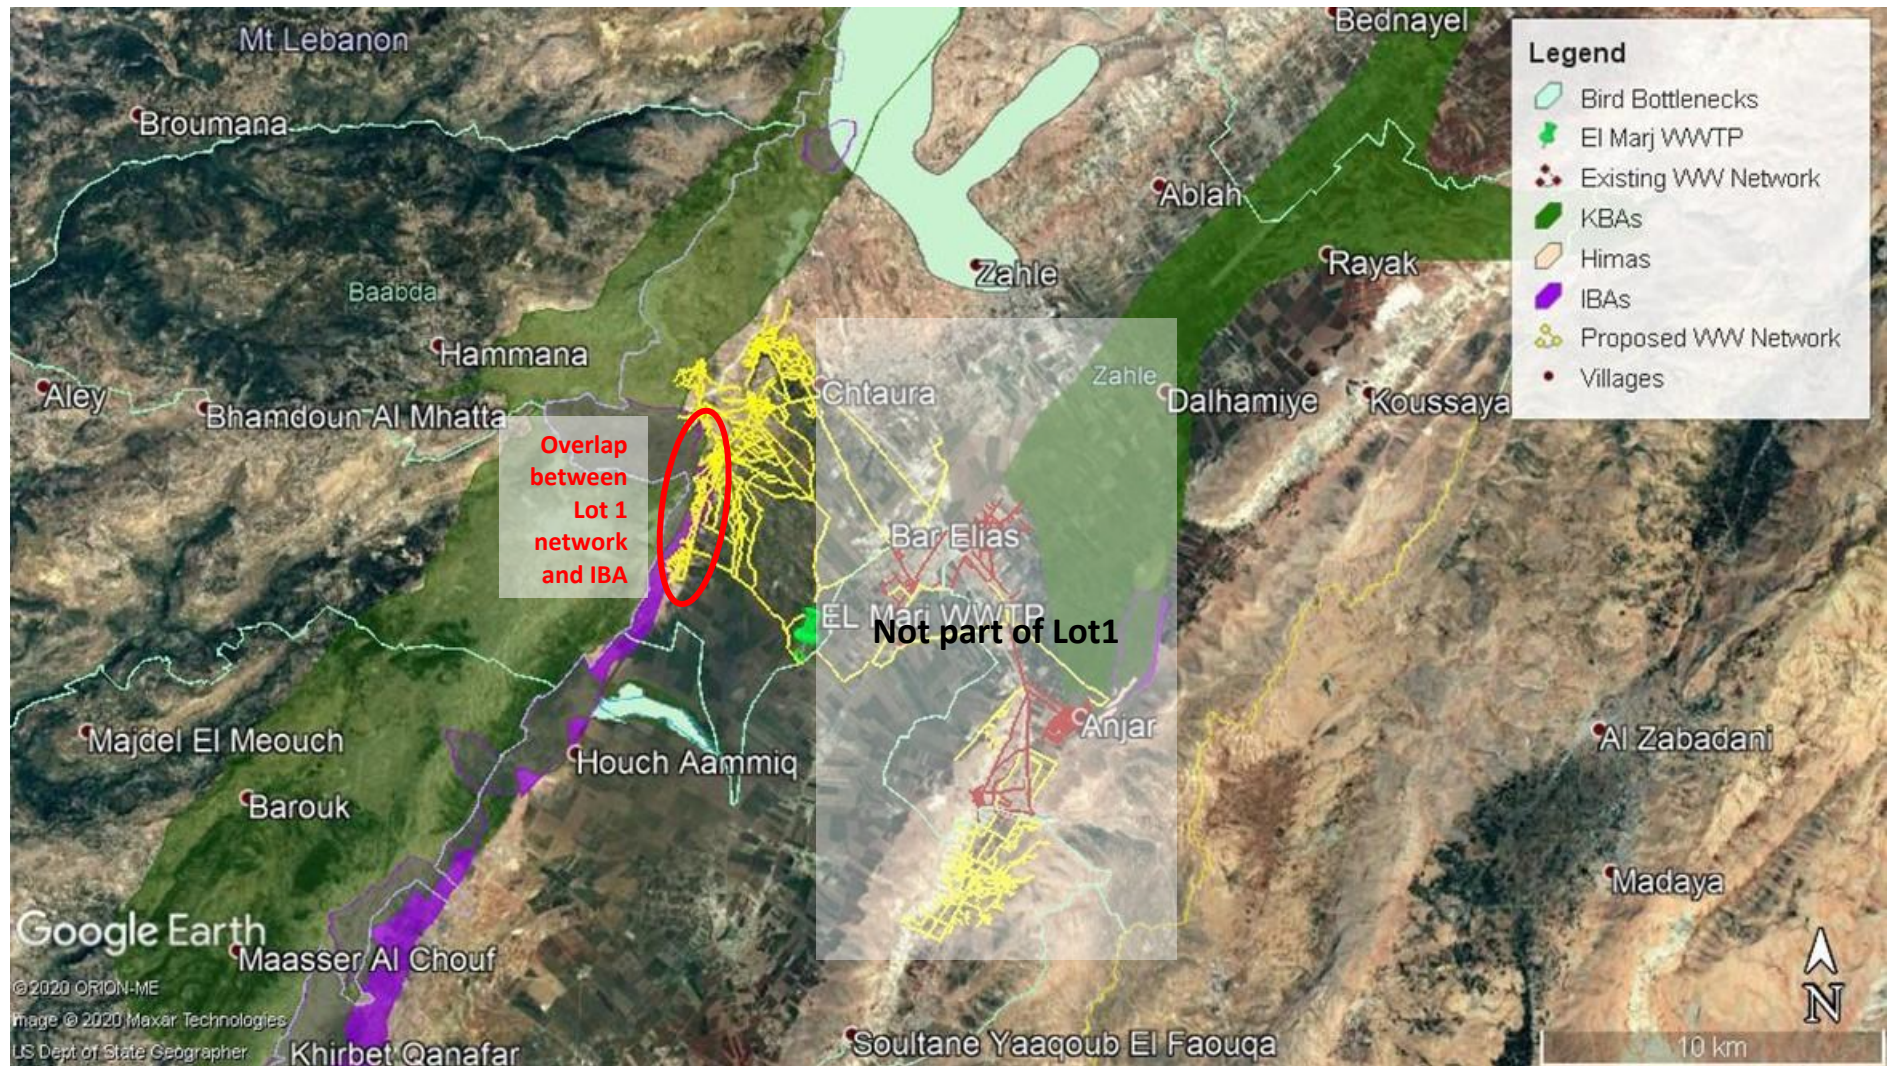

Figure 5-3: Map showing overlap between Lot 1 networks and IBA as surrounding KBAs, IBAs, and Bird Bottlenecks
- Avoid construction works during the peak Spring bird migration season (March to mid-May) and the Fall bird migration one (September and October) in the sections that falls within the buffer and transition zones of the SBR (Figure 5-3), namely the upper parts of Qabb Elias and Bouerij, because these areas fall on the migratory route of birds for both seasons.